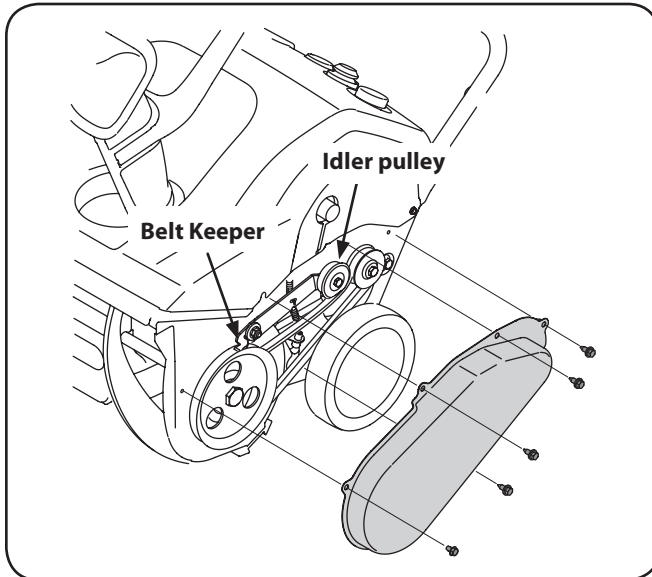

Figure 7-1
1. Remove the belt cover by removing five hex screws which secure it. See Figure 7-1.
NOTE: Push down on the idler pulley to release the belt from under the belt keeper. See Figure 7-1.